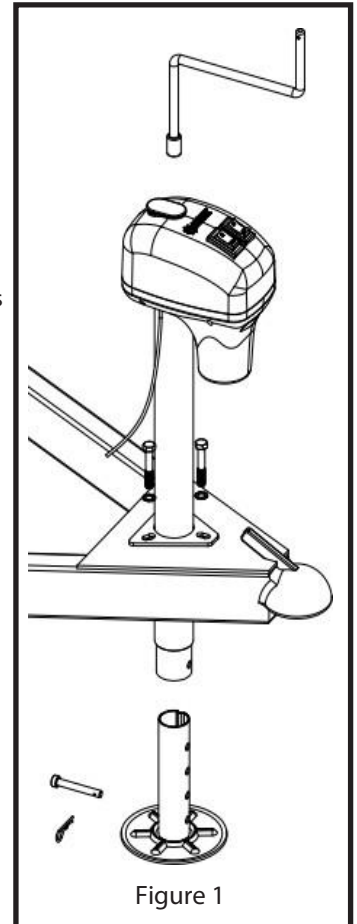

Figure 1
4. Insert the electric jack into the jack hole, aligning the bolt holes so the motor housing is facing forward as shown in Figure 1.
5. Secure the jack with three (3) grade 5, 3/8"-16 UNC bolts and washers (Not provided in the kit). Place the star washers between the flat washers and mounting plate as shown in Figure 1. The star washers are intended to penetrate through the paint on the mounting plate to ensure direct metal to metal contact. Bolts should be tightened to 15-20 ft-lb.